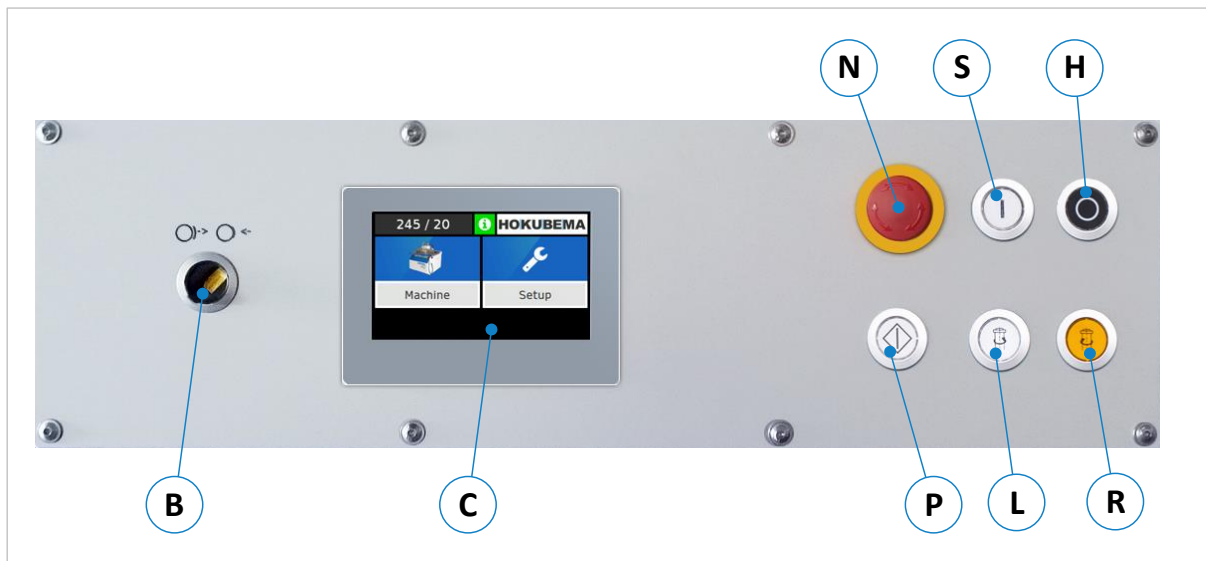

Figure 12: Control panel
- Before changing the tool, switch off the spindle drive with the button  (see ⇒ Figure 12). Then wait approx. 15 seconds → The motor brake opens automatically